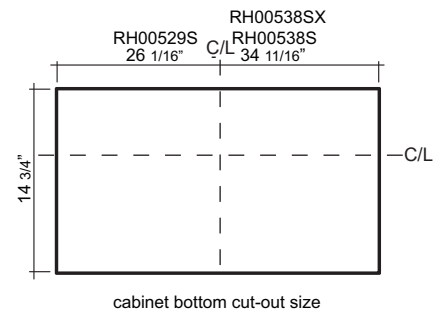

FIG 1
2. Install 8" round adapter to top of Power Pack by using (4) M4 x 8 screws.
4. If no liner is used cut out an opening in the bottom of the cabinet by following the dimensions in FIG 1.